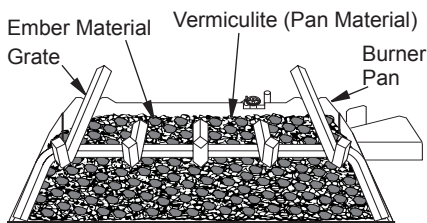

Figure 21 - Ember Material on Surface of Pan Material (Vermiculite) (P324E, VP325E Shown)
3. Remove ember material from bag and flatten small amounts into quarter size pieces and lay on top of surface of pan material (see Figure 21).